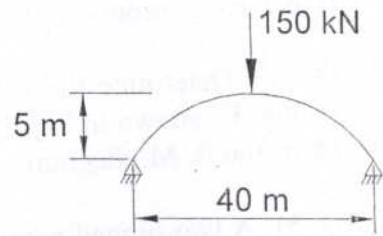

Fig. Q. 5
Q. 5) A two-hinged parabolic arch as shown in Fig. Q. 5 has a span of 40 m and a central rise of 5 m. It carries a single concentrated load of 150 kN at the crown. The moment of inertia at any section is equal to $I_c \sec \theta$, I_c being the moment of inertia at the crown and θ the slope at the section. Determine the horizontal thrust at the supports and the B.M. at the crown, neglecting the effect of rib shortening. Draw the B. M. diagram.